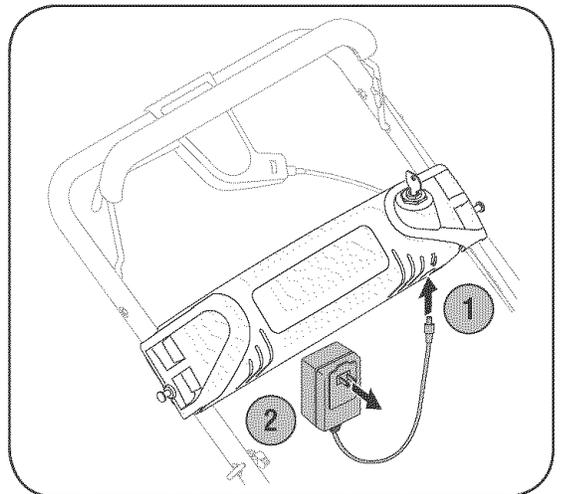

Figure 5-5: Plug charger into battery lead (1) and then plug charger pack into 120 volt standard household outlet (2).
1. Plug the battery charger into the port on the underside of the battery housing, Figure 5-5.
2. Insert the battery charger plug into a standard 120 volt household outlet, Figure 5-5. Charge battery for 8 to 10 hours before initial use. **Do not charge longer than 12 hours.** The battery should only need to be charged upon initial setup and after any other extended periods of non-use.